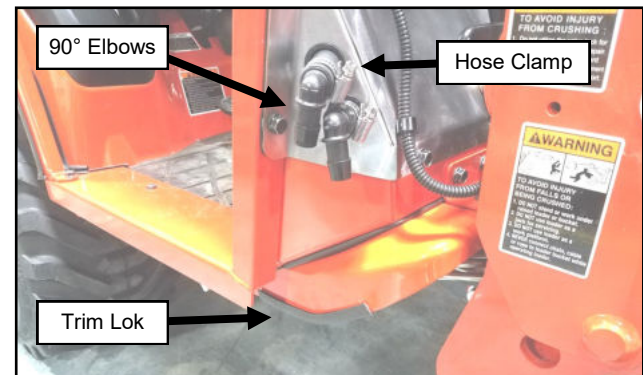

Fig. 2.3 (90° Heater Hose Elbow and Trim Lok)
- 2.3 Make sure the heater hose is not too tight or kinked before going through the snap rings, and cut both ends of hose about 1" beyond the snap rings on the outside. Connect the 90° heater hose elbows and secure with 1" hose clamps. Attach 6" of Trim Lok to the bottom edge of the vehicle floor board. See Figure 2.3.